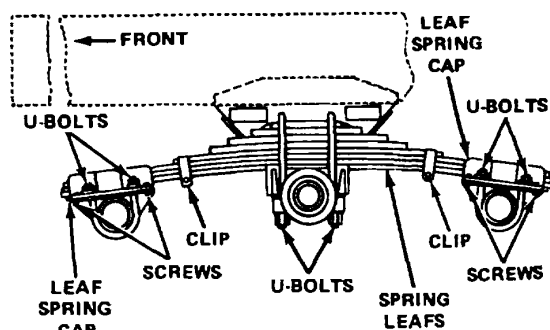

Figure 4-41. Bogie Assembly (M1098)
(1) Inspect general condition of trunnion tube, axles, and spring leaves. Look for cracks or damage.
(2) Check tightness of U-bolts, fig. 4-41. Check clips on leaf springs, Table 4-5.
(3) Check tightness of U-bolts and screws, fig. 4-41. They should be tight on leaf spring cap and seat, table 4-5.
(4) Look for cracked brake drum.